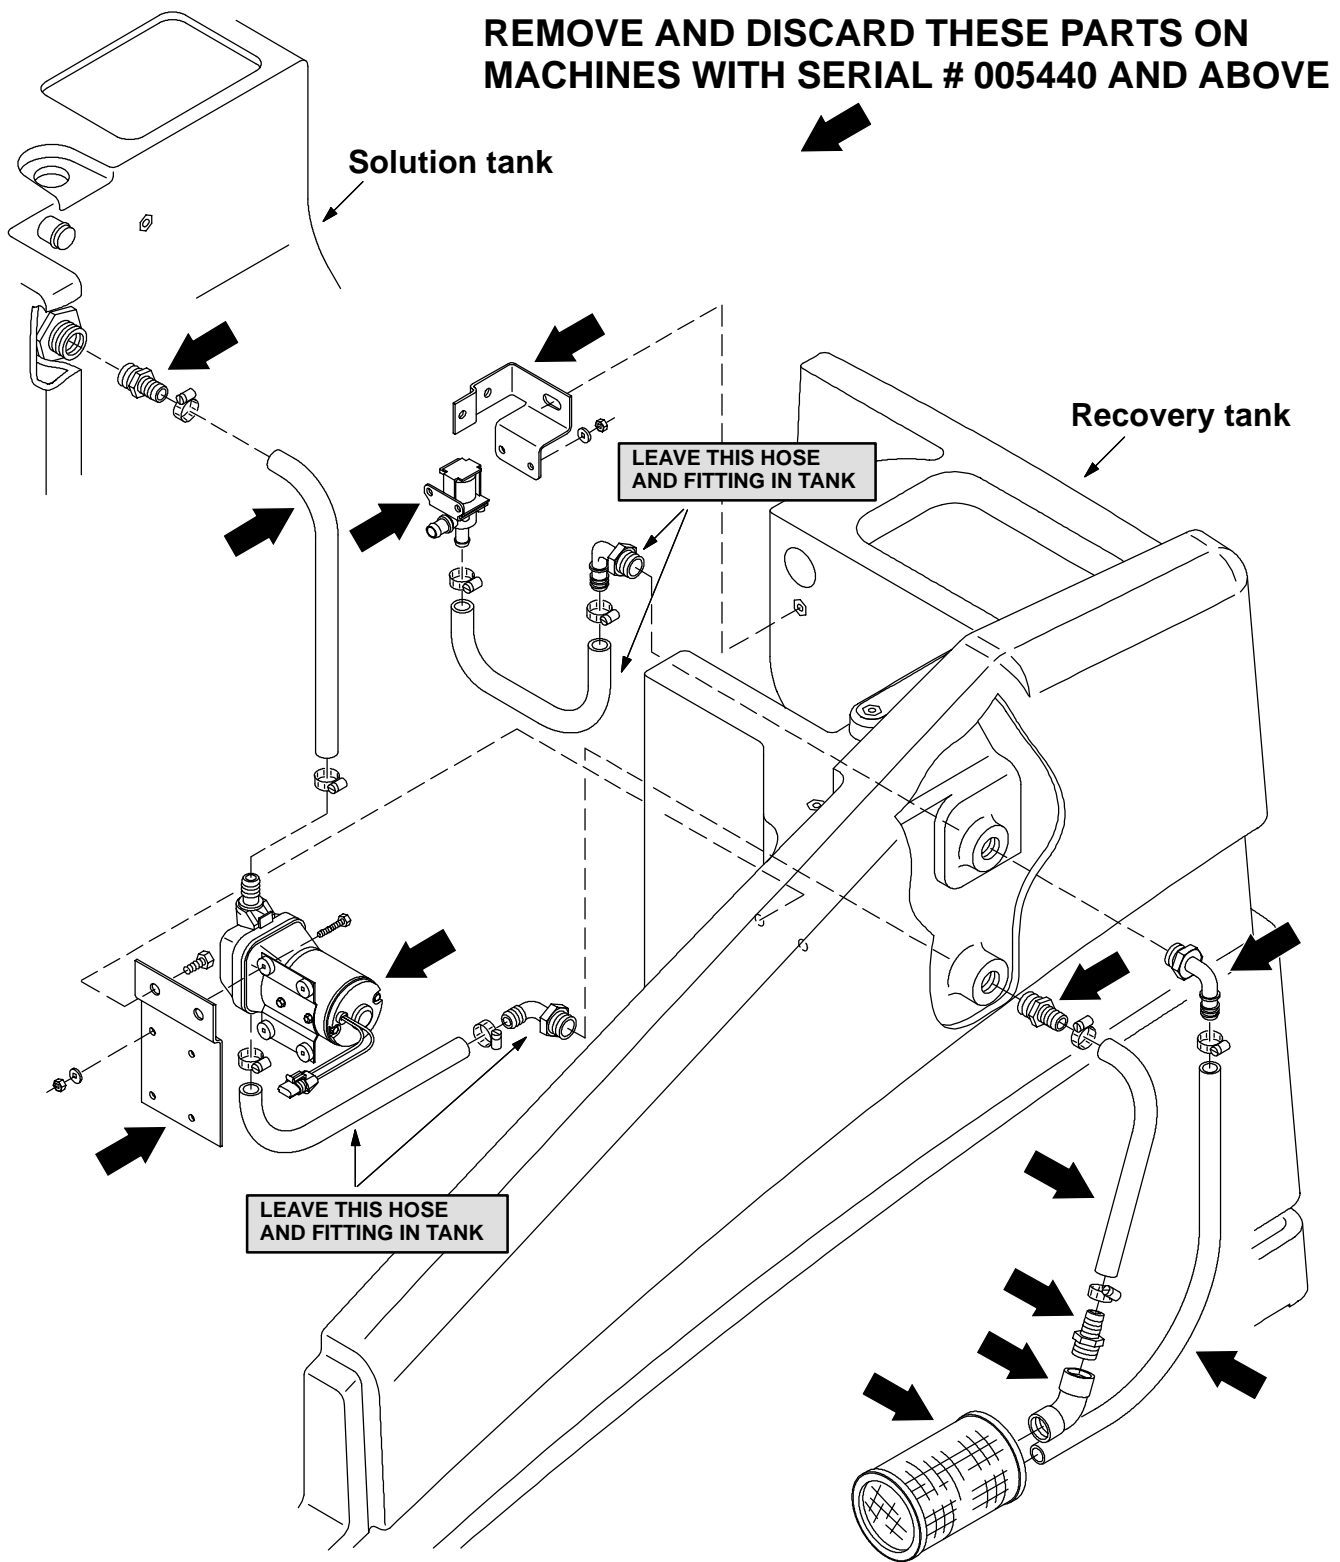

FIG. 1 - ES™ Parts To Remove And Discard (machine serial # 005440 and above)
(Refer to FIG. 1 and 2)
2. Disconnect the hose leading from the top of the ES™ pump to the fitting on the side of the solution tank. Remove and discard the straight fitting. (Refer to FIG. 1 and 2)
3. Disconnect the hose at the bottom of the ES™ pump. Leave the hose connected to the tank fitting. (Refer to FIG. 1 and 2)
4. Disconnect the hose or hoses on the inside of the recovery tank--including the filter strainer. Discard the hoses and filter. Remove and discard the fitting(s) on the inside of the recovery tank. (Refer to FIG. 1 and 2)
5. Remove the ES pump and mount bracket from the machine. Discard the pump and bracket. (Refer to FIG. 1 and 2)